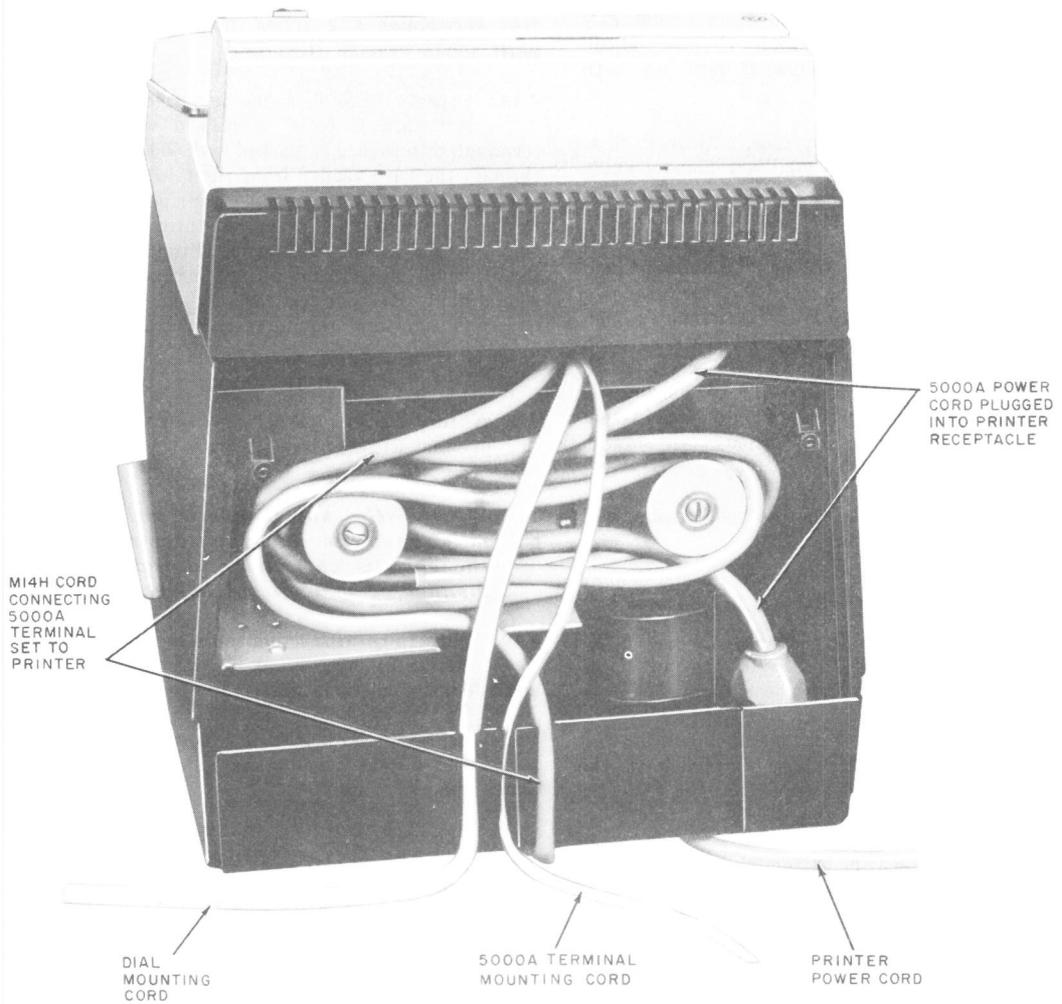

Fig. 12—5000A Terminal Shown Installed on 5000A Printer — Printer Cover Removed to Show Cord Storage
(5) Plug 5000A terminal power cord into receptacle in rear of printer and wind the M14H and the 5000A terminal power cord around the cord storage spools at the rear of the printer (Fig. 12).
(6) Dress mounting cord(s) through the slots provided in rear of printer and replace back cover. Proceed to 3.13.